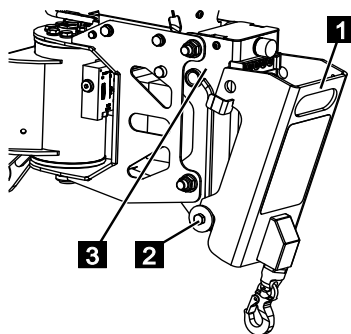

Fig. 162
2. Insert the lifting device (Fig.162/1) into the holder (Fig.162/2) and push it into the mount (Fig.162/3).